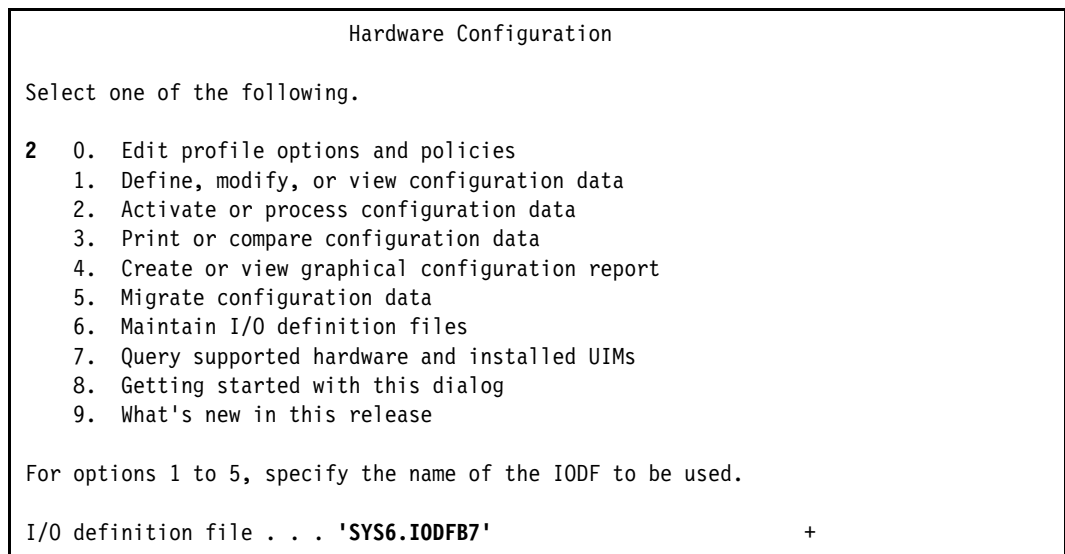

Figure 7-71 HCD - Hardware Configuration: activate or process configuration data
1. From the HCD main menu, select option **2. Activate or process configuration data** (Figure 7-71). Ensure that the IODF is the production IODF that was created in 7.7, "HCD: Building the 2964 production IODF" on page 403 and then press Enter.